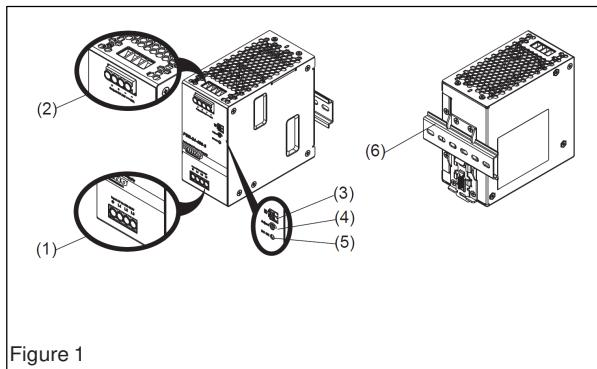
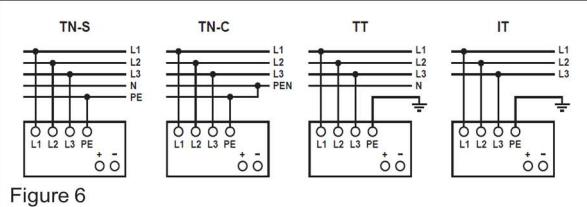

Figure 1
Figure 6
2. Device description (Fig. 1)
4.1. Input connection (Fig. 1, Fig. 6)
Use L, N and PE connections of input terminal connector (see Fig. 1 (1)) to establish the 3 x 380-500VAC connection. The unit is protected with internal fuse (not replaceable) at L1, L2 and L3 pins, which have been tested and approved on 20A (UL) and 16A (IEC) branch circuits without additional protection device.
4.2. Output Connection (Fig. 1 (2))
Use the "+" and "-" screw connections to establish the 24 VDC connection. The output provides 24 VDC. The output voltage can be adjusted from 24 to 28 VDC on the potentiometer. The green LED DC OK displays correct function of the output (Fig. 1 (5)). The device has a short circuit and overload protection and an over voltage protection limited to < 35 VDC.